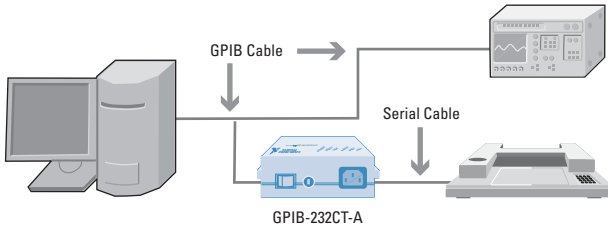

Figure 1. S Mode Application Example
**S Mode** – Figure 1 shows the GPIB-232CT-A used in the S mode. In S mode, the device on the serial side of the GPIB-232CT-A is a computer or similar intelligent device.